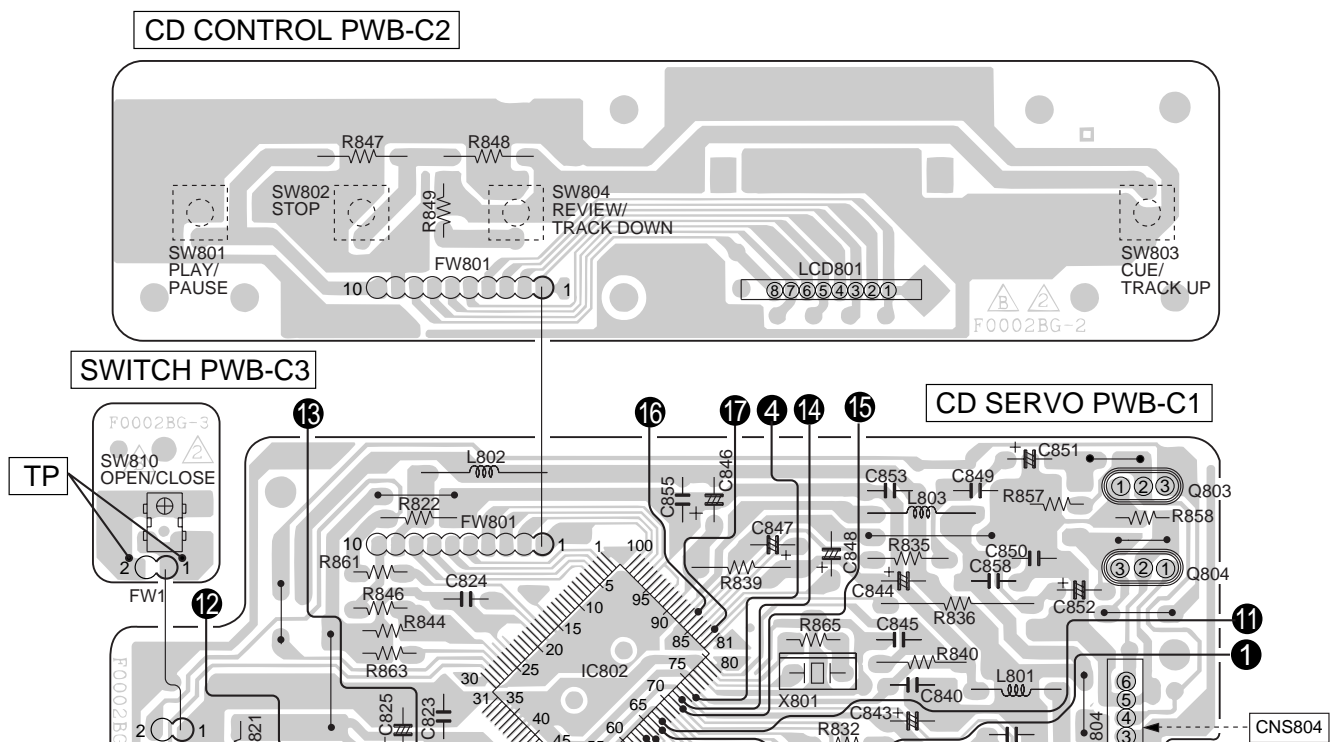

Figure 9
2. Short the TP of the Figure 9 to turn on the CD LID SW 810.